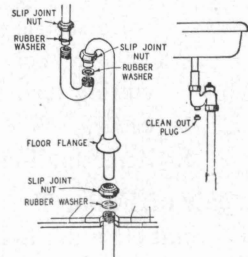

Fig. 66
3. Water traps in kitchen sinks and wash bowls can be cleaned as shown in Fig. 66.